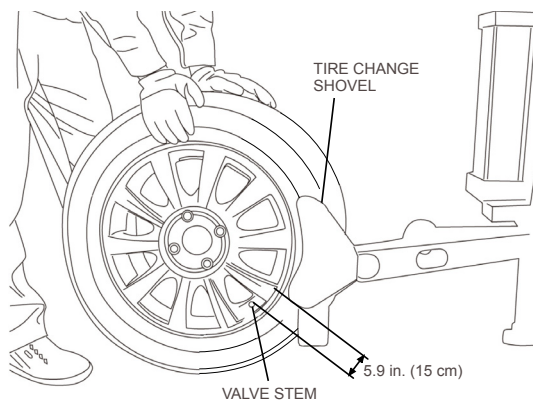

Figure 10: Tire Change Shovel - Correct Position
2. Use the tire change shovel to demount the tire from the wheel. See Figure 10.